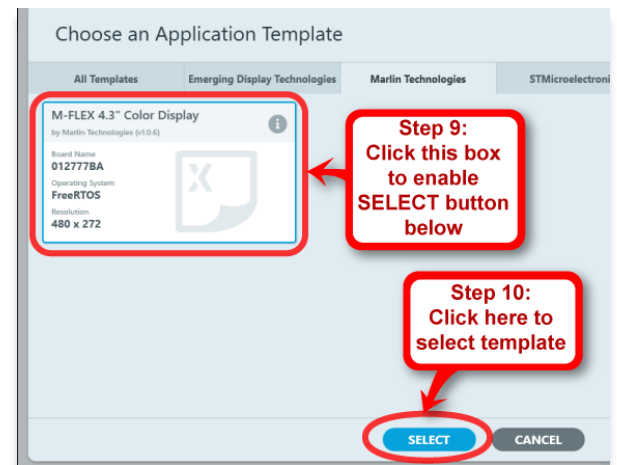

Figure 4
9. Click on the box for the *M-FLEX 4.3" Color Display* template (see Figure 4).
10. Then click *Select* (see Figure 4). The *Select* button will not become active until the template box is clicked in the previous step.